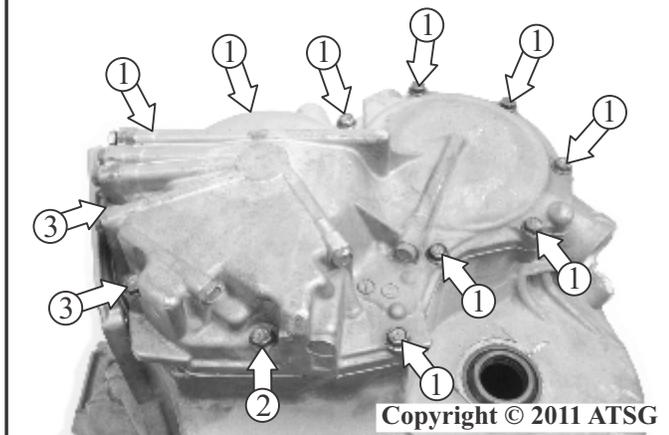

Figure 220
28. Apply a 3mm (1/8 in.) bead of sealant GM P/N 89020326 or equivalent to the transmission rear case cover and install the cover onto the transaxle as shown in Figure 220.
29. Remove the bolts from the case cover and apply a small amount of threadlocker GM P/N 12345382 or equivalent to all 12 transmission rear case cover bolts as shown in Figure 220.
30. Install 9 M8 x 1.25 x 30mm bolts and hand tighten only as shown in Figure 220.
31. Install 2 M8 x 1.25 x 45mm bolts and hand tighten only as shown in Figure 220.
32. Install 1 M8 x 1.25 x 48mm bolt and hand tighten only as shown in Figure 220.